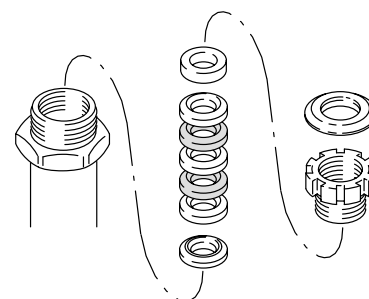

Fig. 22
8. Remove and discard the throat packings and glands from pump cylinder. See Fig. 22.